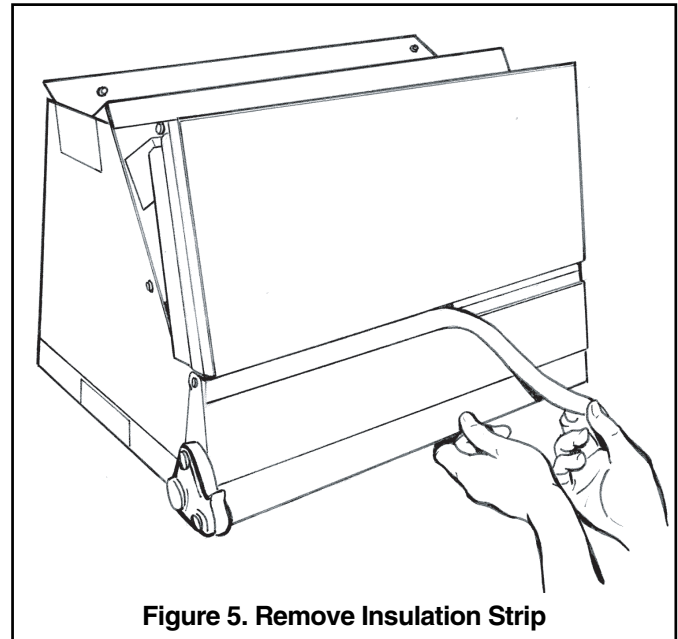

Figure 5. Remove Insulation Strip
1. The horizontal drip tray should be removed **for maximum efficiency**. See Figures 5, 6, and 7.
- b. Remove 1" insulation strip covering the lip of the drip tray. See Figure 5.